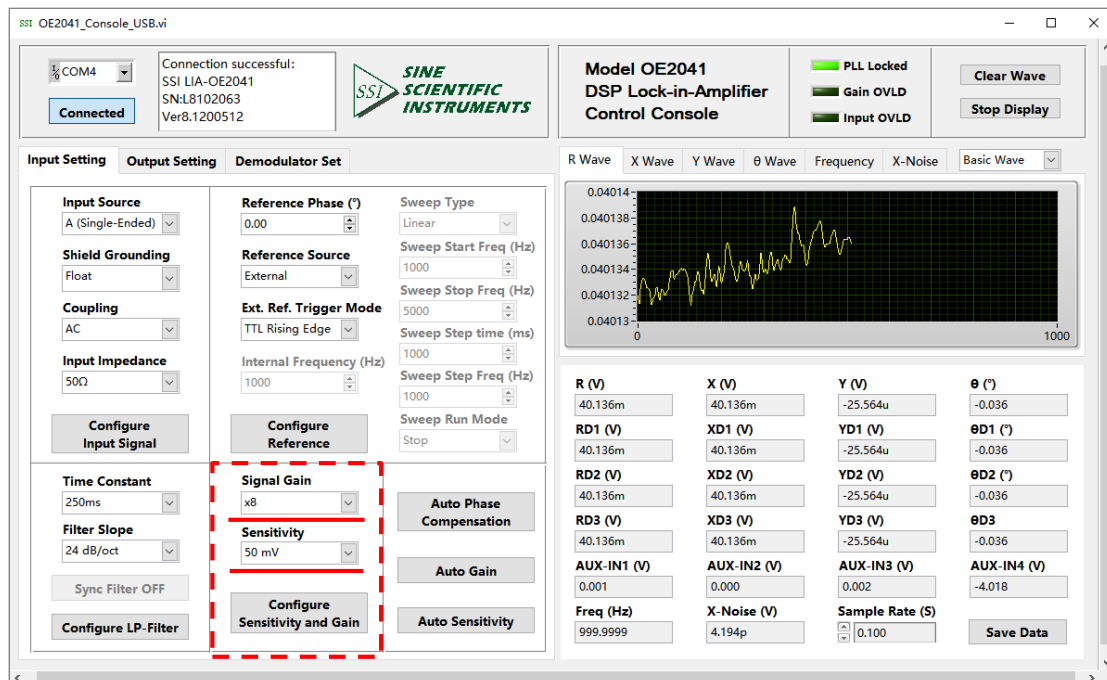
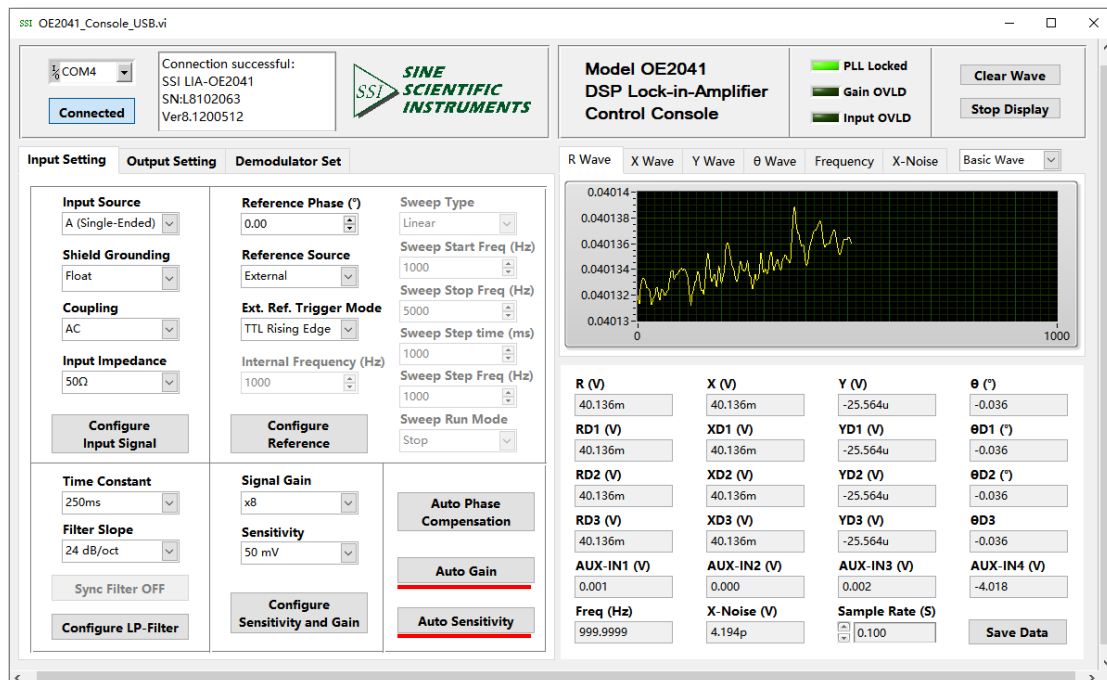
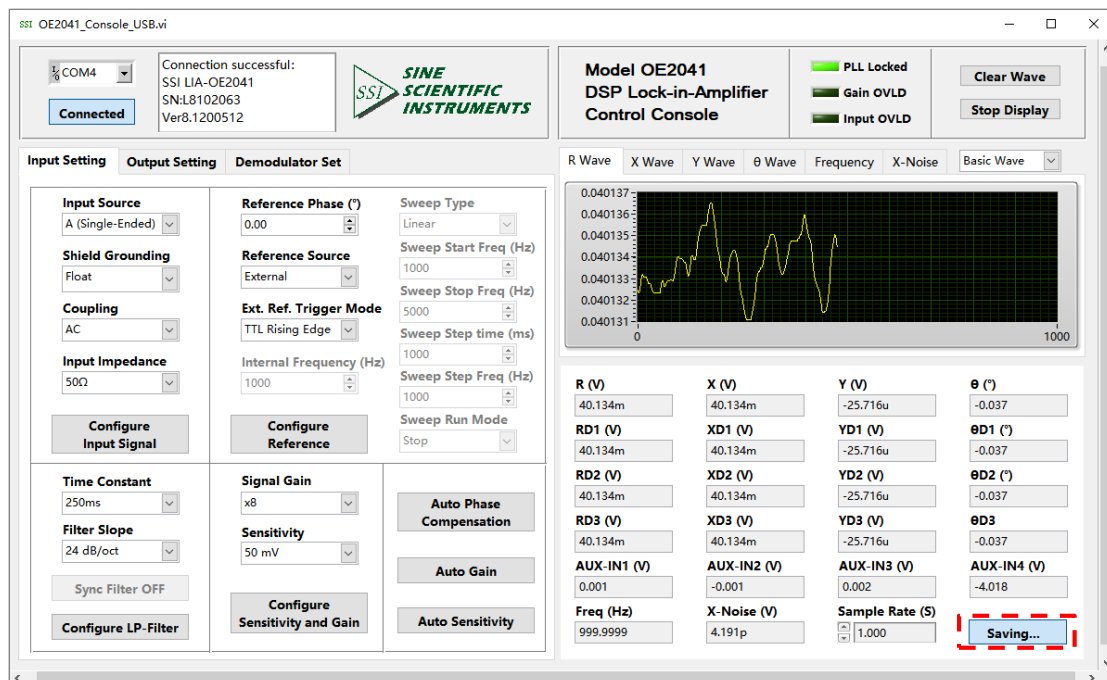

Fig.80 Sensitivity and Gain Configuration
Fig.81 Auto Sensitivity and Gain Configuration
Fig.83 The data saving is executing
4. Choose these two options in “Sensitivity and Gain Configuration”, including “Signal Gain” and “Sensitivity” with other options in default, as is shown in Fig.80. At last, click the button “Configure Sensitivity and Gain” to finish the configurations.
At this point, look at the “Sensitivity” item on the main interface, and compare Fig.80 to find that Sensitivity has been changed to the appropriate sensitivity (from 1V to 50 mV); and Gain has been changed from 0.4 to 8 times, as shown in Fig.81.
As is shown in Fig.81, click the button "Save Data" in the red box. When this button is clicked and it displays "Saving...". This means the OE2031 is saving data, as is shown in Fig.83.